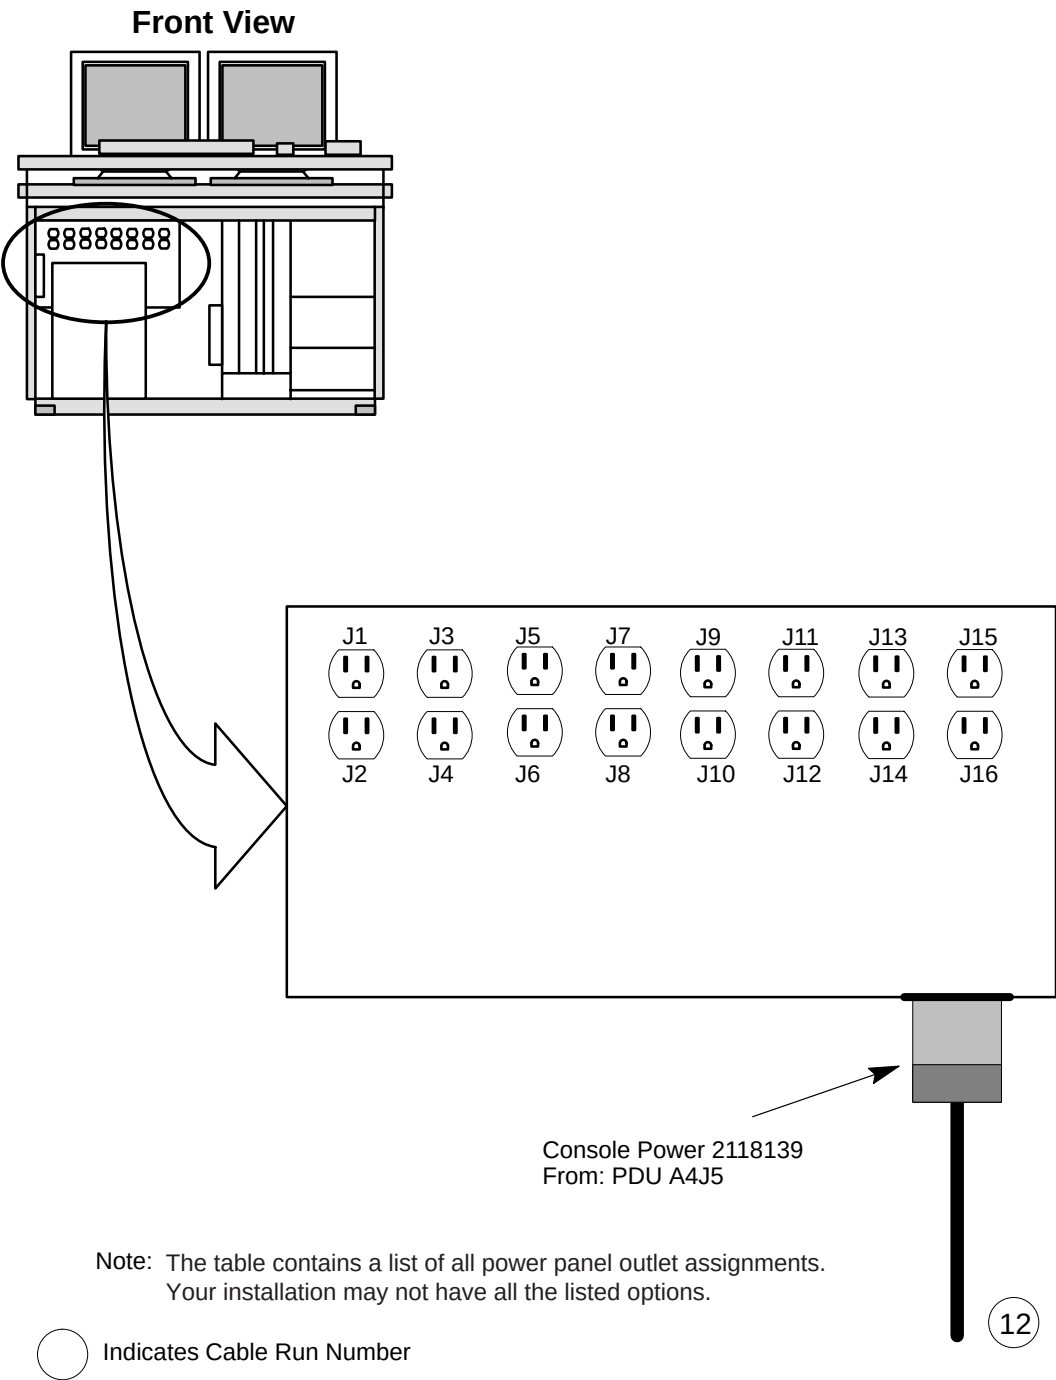

Figure 2-7 Console Power Panel
- 1.) Refer to Figure 2-7.
- 5.) Plug DASM power cord into J10, Figure 2-7. Attach remaining cable(s) from camera to DASM.